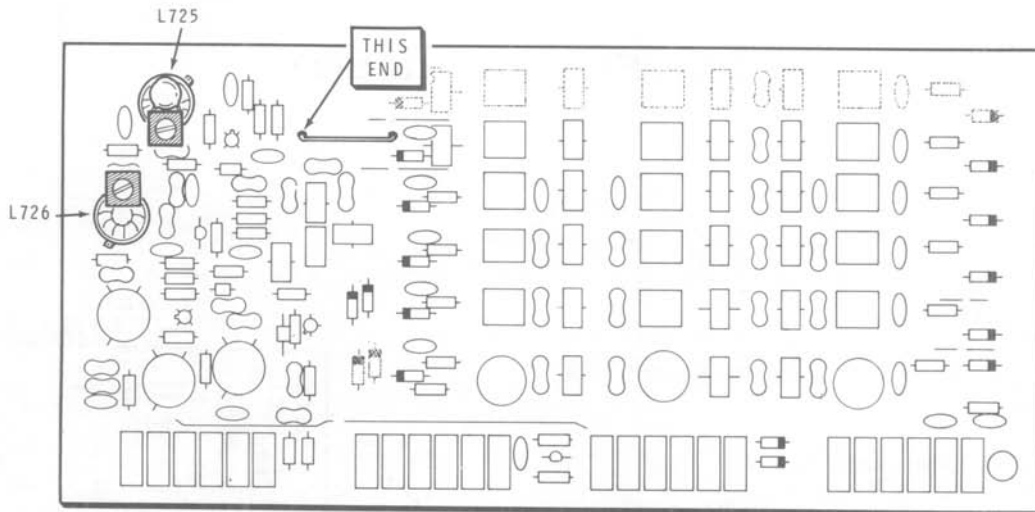

Figure 1-7A
- () Refer to Figure 1-7A and carefully unsolder from circuit board G the end of the jumper marked "this end." Pull the end of the jumper out of the circuit board hole.